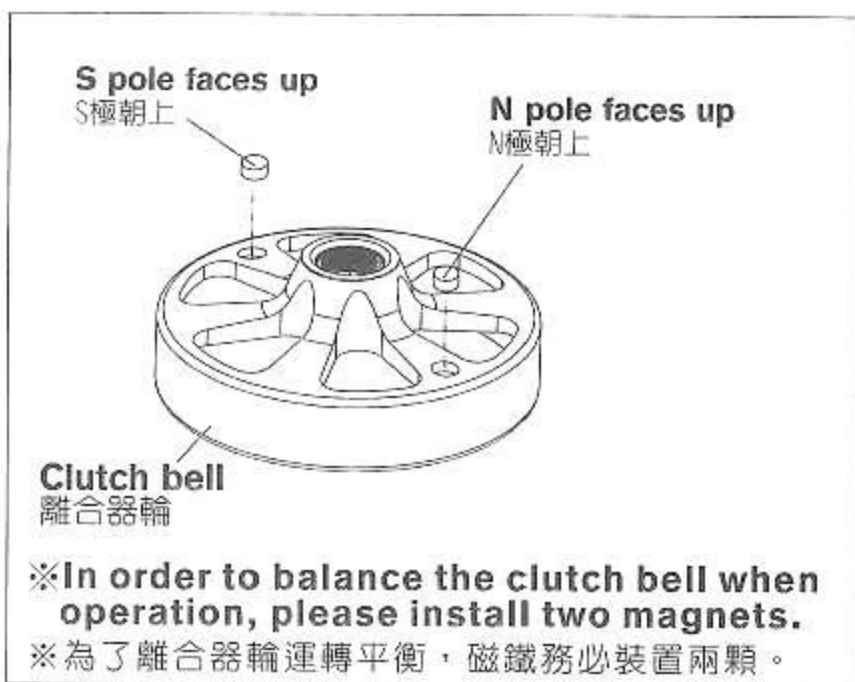

Fig.1
1. See Fig. 1, first install two magnets on the mounting hole of the Clutch bell with CA glue or R48 glue, the north pole of one magnet (mark N) faces up and the north pole of the other magnet faces down.